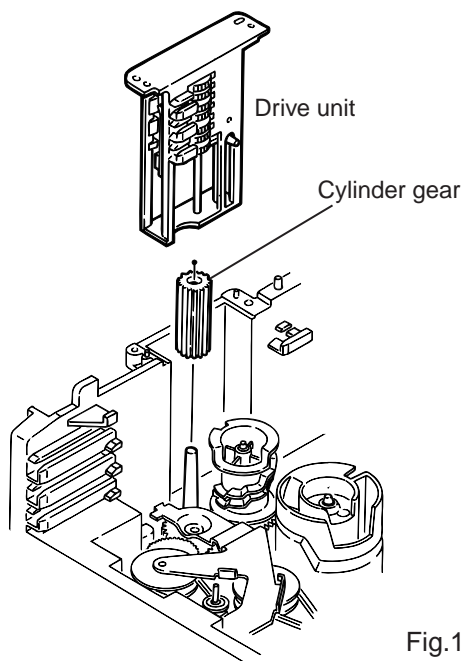

Fig.16
2. While turning the cam gear L, align the pawl "N" position of the drive unit to the notch position(Fig.16) on the cam gear L.